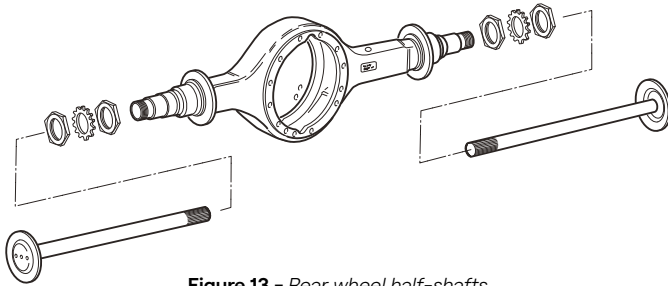

Figure 13 - Rear wheel half-shafts
8. Remove the rear wheel half-shafts (**Figure 13**).